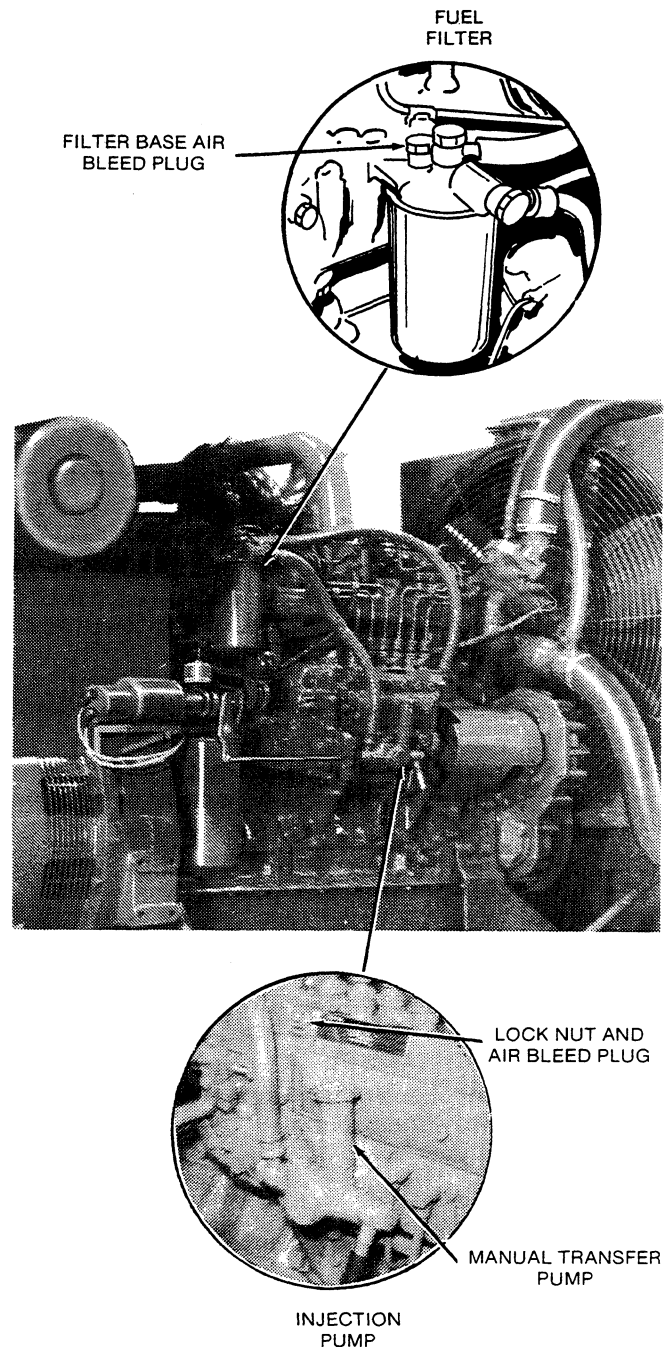

FIGURE 5. AIR BLEED COMPONENTS
2. Remove fuel filter (Figure 5) by turning it counterclockwise with a filter tool.